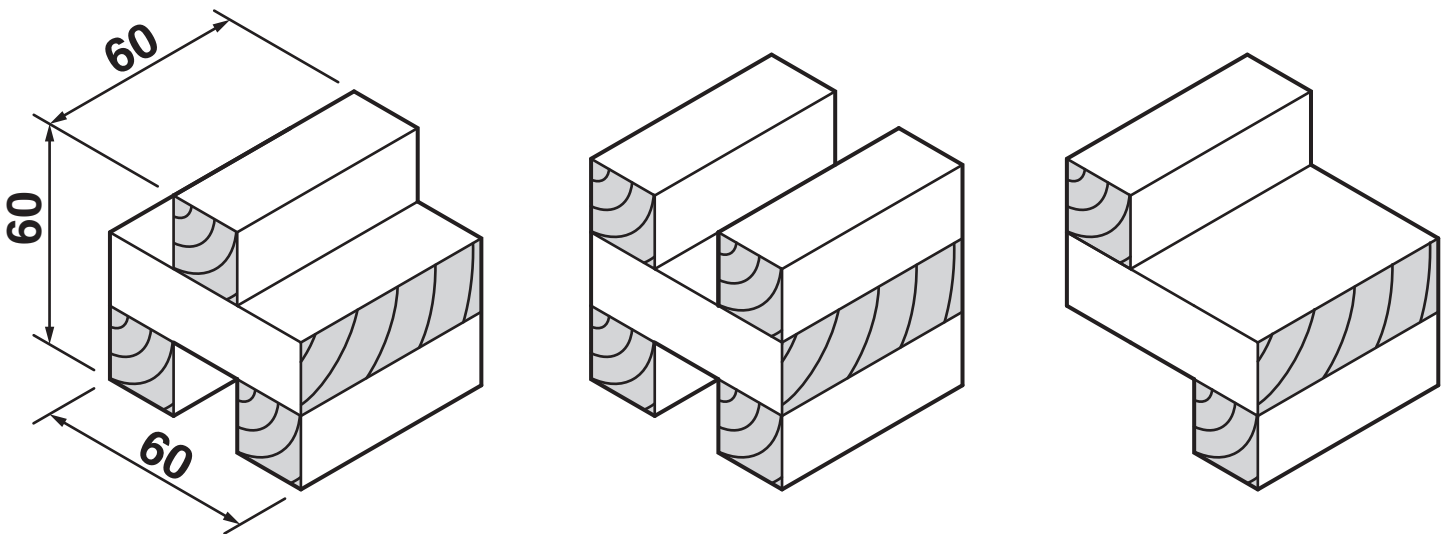

Fig. 1
- 1 Fig. 1 shows three building blocks that are part of a set used by children.
- (c) The building blocks shown in Fig. 1 could have been designed using drawing instruments or CAD. Give TWO advantages, other than speed, of using CAD to design the building blocks.